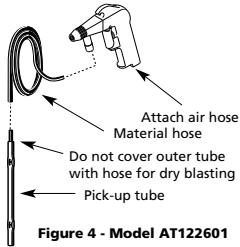

Figure 4 - Model AT122601
- Attach material hose to the pick-up tube. Place pick-up tube in bag of medium. (See Figure 4).